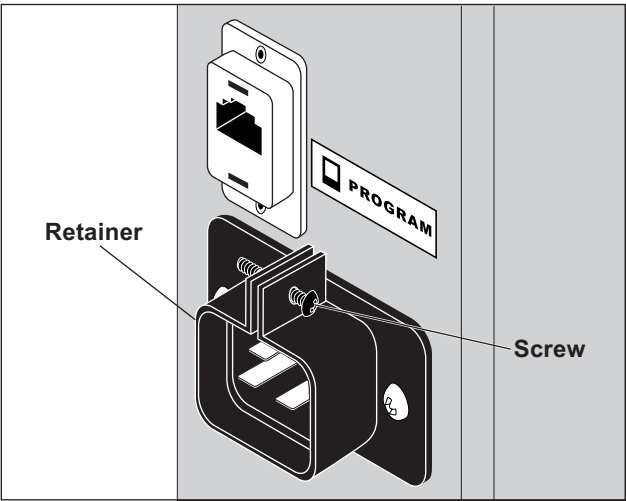

Figure 6. Attaching Cordset
2. Loosen screw on retainer. See Figure 6.